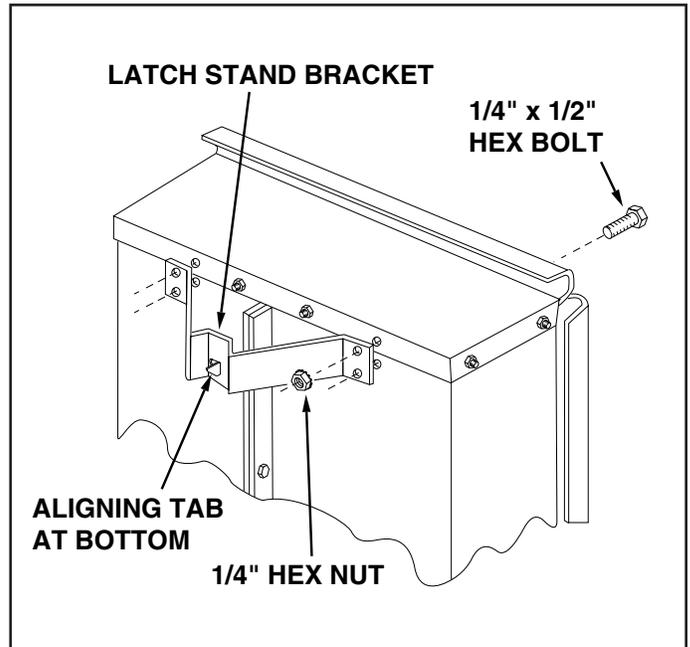

FIGURE 6
12. Turn the latch stand bracket so that the aligning tab is at the rear (bottom) of the bracket. Assemble the latch stand bracket to the cart using four 1/4" x 1/2" hex bolts and 1/4" hex nuts. **TIGHTEN**. See figure 6.